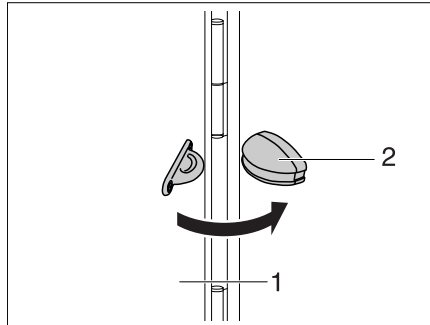

Fig. 52 Holding device external flap
- Open the external flap (Fig. 52,1) and swing it towards the vehicle side.
- Press the external flap into the holding device (Fig. 52,2).
- Pull the external flap (Fig. 52,1) with a firm tug out of the holding device (Fig. 52,2).